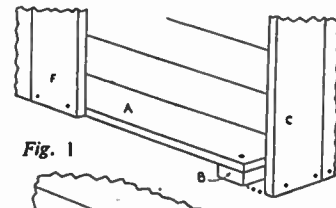

Fig. 1
First, make the floor of the hutch. You will need a sufficient number of ordinary boards to make the width of the floor, and these should be joined together by a batten along each end. Fig. 1 shows the boards (A) joined by batten (B). The battens should be sawn off flush with the edges of the boards. These boards should be as thick as possible, one inch for boards and battens would do.
Before assembling the sides, take the front boards in each side (C in Figs. 1, 2, 3) and saw out a section at the top front corner. This is to accommodate the cross-piece (D) (Figs. 1, 2, 3) which comes at the top of the hutch front. If (D) is 2ins. by 1in. section, then the cut-out should be 2ins. deep by 1in. wide. The side elevation in the circular inset of Fig. 3 is explanatory.
When this is done, each side can be placed against the hutch floor already made, and the bottoms of the boards nailed to the battens (B) (Fig. 1).
Having nailed on the front boards, attach the whole to the hutch front, nailing (D) to side boards (C), and the front boards at the bottom to the floor edge (Fig. 1).